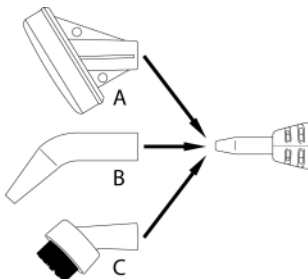
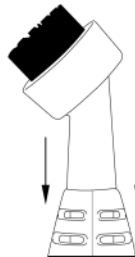

FIGURE 3
FIGURE 4
1. To attach Scrub Pad (FIGURE 3-A), Angled Steam Nozzle (FIGURE 3-B), or one of the three Utility Brushes (FIGURE 3-C), first make sure Steam Jet Nozzle is properly installed. Then simply slide accessory onto end of Steam Jet Nozzle as illustrated (FIGURE 4).
IMPORTANT: To avoid injury, slide utility brush all the way to end of Steam Jet Nozzle as illustrated (FIGURE 4) to ensure no steam escapes.